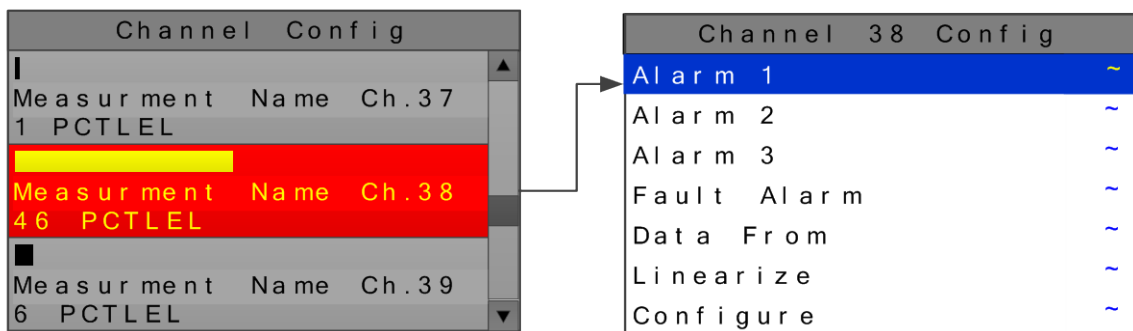

Figure 2-13
**CHANNEL CONFIGURATION** is accessed through the **MAIN MENU**. Once in the **CHANNEL CONFIGURATION** entry menu, show on left in Figure 2-13; use /